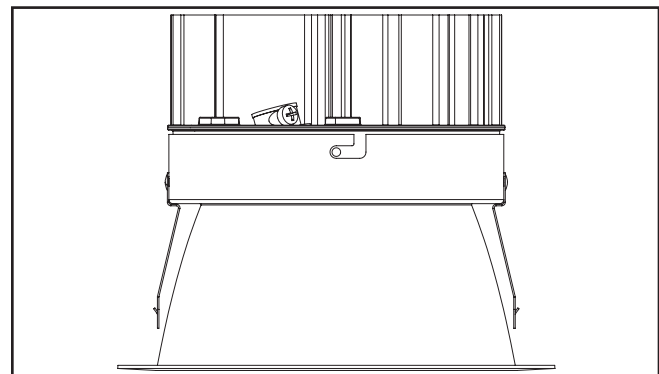

Figure 6.
3. Insert LED engine into lower trim. Align LED engine screw holes with lower trim screw slots (Figure 6.).